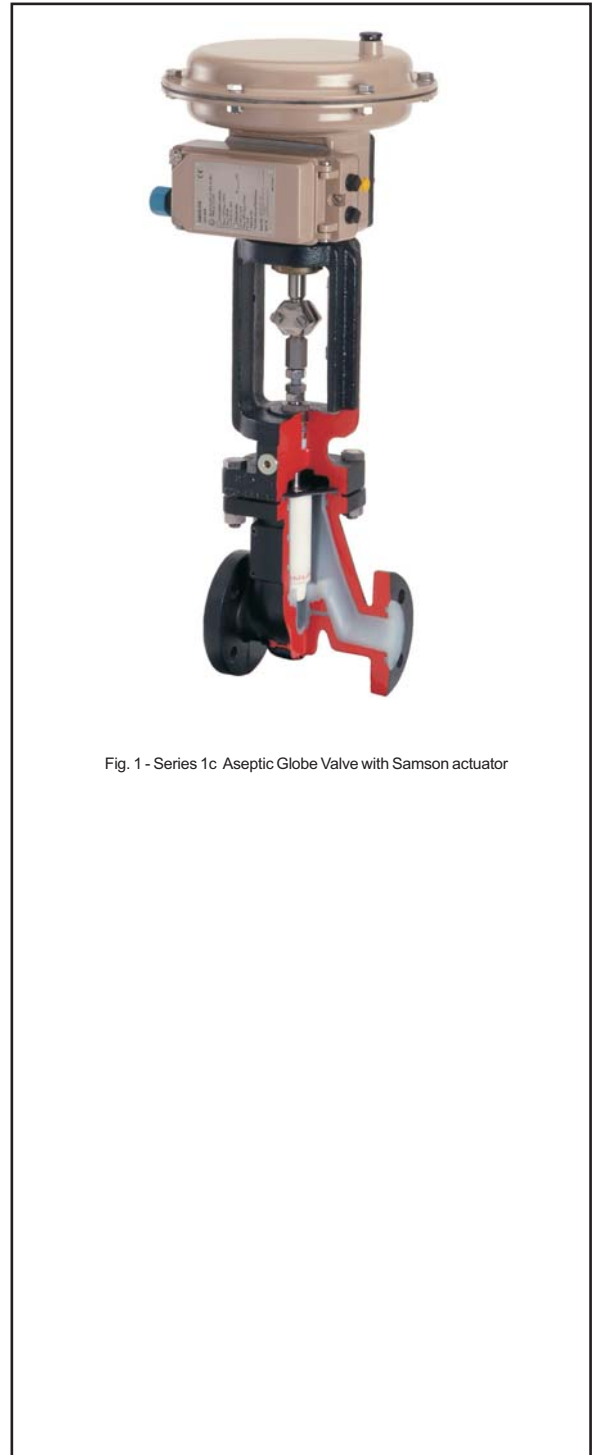

Fig. 1 - Series 1c Aseptic Globe Valve with Samson actuator
- Samson pneumatic actuator (Fig. 1).